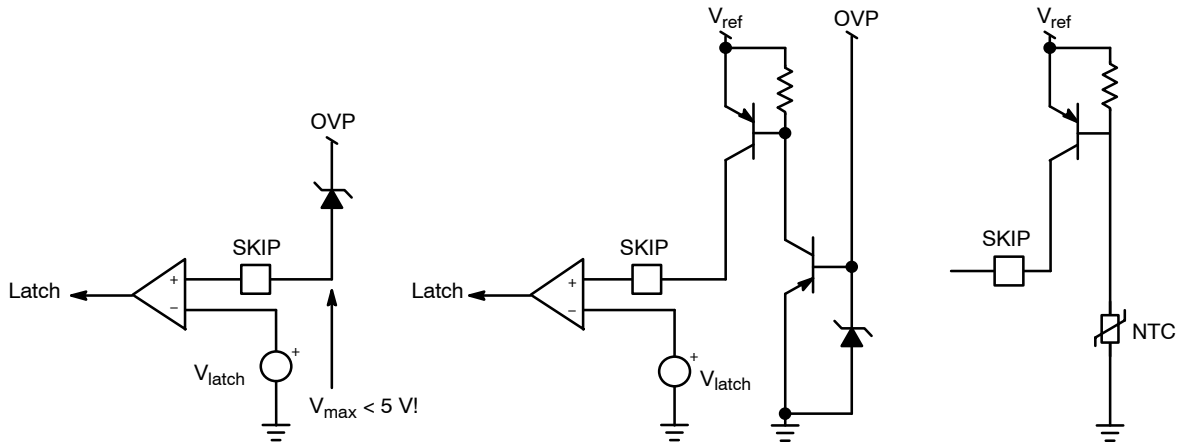

Figure 14. Possible use of the Latch Function of Skip/OVP Pin
- To perform a latch function, the best way is to drive the REF signal to Skip/OVP Pin through an optocoupler or a simple bipolar transistor as exemplified in Figure 14.